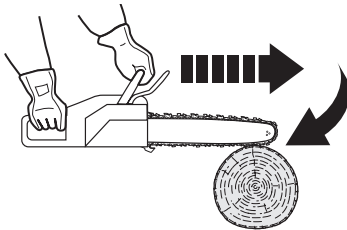

Fig. 24
1. Pinching the saw chain (12) along the bottom of the guide bar (13) may pull the product forward away from the operator (Fig. 24).